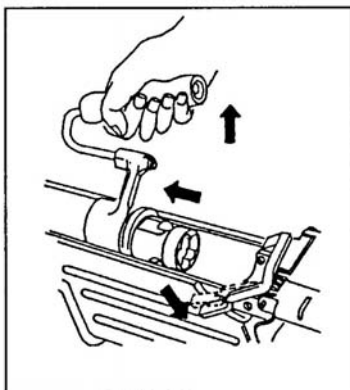

Figure 071-312-4025-7. Removal of the barrel
- e. Remove the handguard (figure 071-312-4025-8)
- (1) Push the handguard retaining pin to the left using a section of the cleaning rod.
- (2) Pull downward and remove the handguard.